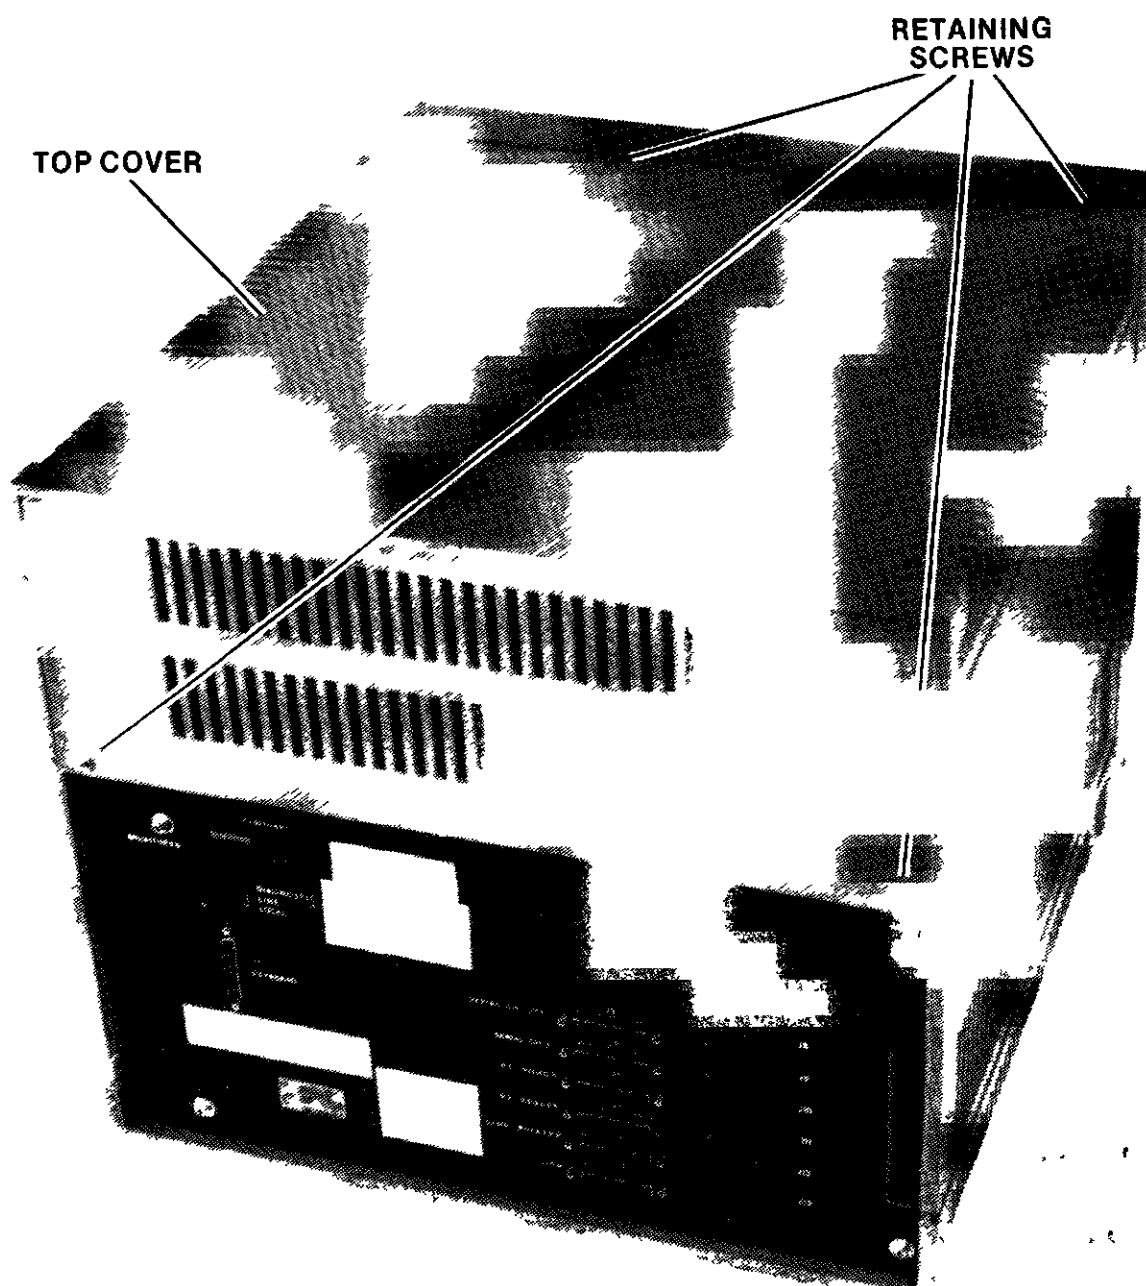

Figure 2-1. Chassis Top Cover Removal
2. Loosen top cover of chassis by removing the two screws near front of cover and the two screws on rear of cover. (See figure 2-1.) Lift off top cover.